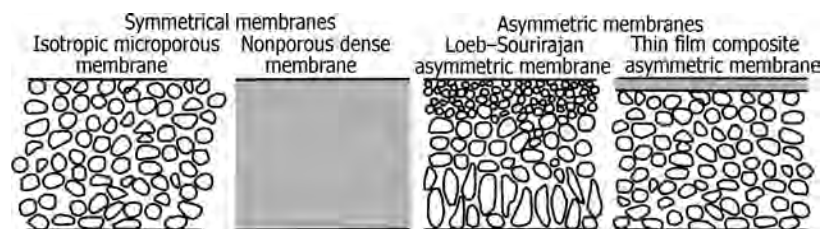

FIGURE 18.44 Symmetrical and asymmetrical membranes.
- Figure 18.44 illustrates symmetrical and asymmetrical membranes.